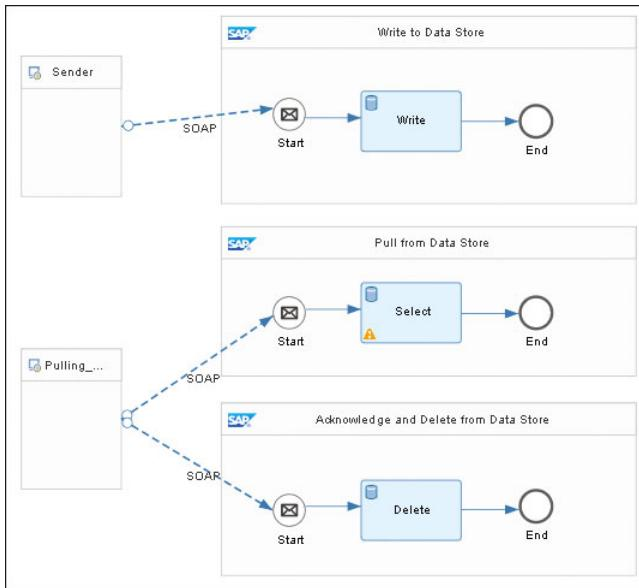

Figure 5.78 Sample Integration Flow for the Push-Pull Pattern
- The data store is often used in the push-pull pattern. The sender is sending messages to SAP Cloud Platform Integration, where the messages are temporarily stored in the data store. In a synchronous call, the receiver actively polls the messages from the data store using the **Select** step and acknowledges the receipt of each message. Afterwards, these acknowledged messages are deleted from the data store using the **Delete** step. We don't go into a detailed description of the push-pull pattern here, but a small sample integration flow is shown for your reference in Figure 5.78.